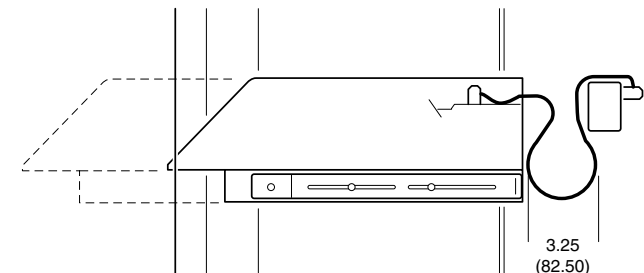

Figure 3-5: Cable Attachments
- In the recessed position, make sure there is 3-1/4 inch (8.25 cm) clearance for the loop of slack cable as shown in *Figure 3-5*